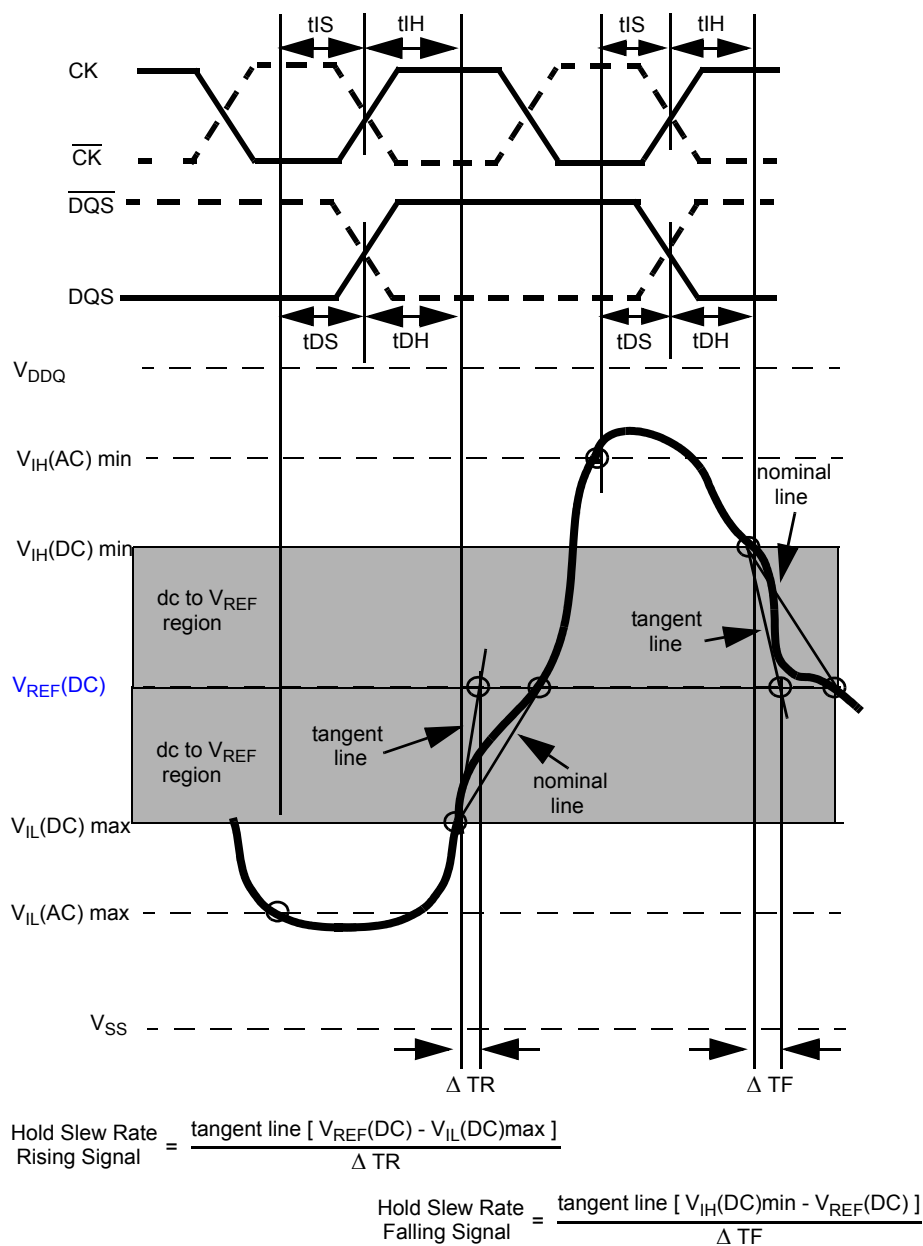

Figure 24. Illustration of tangent line for hold time  $t_{DH}$  (for DQ with respect to strobe) and  $t_{IH}$  (for ADD/CMD with respect to clock)
Hold (tIH) nominal slew rate for a rising signal is defined as the slew rate between the last crossing of VIL(DC)max and the first crossing of VREF(DC). Hold (tIH) nominal slew rate for a falling signal is defined as the slew rate between the last crossing of VIH(DC)min and the first crossing of VREF(DC). If the actual signal is always later than the nominal slew rate line between shaded 'dc to VREF(DC) region', use nominal slew rate for derating value (see Figure 22). If the actual signal is earlier than the nominal slew rate line anywhere between shaded 'dc to VREF(DC) region', the slew rate of a tangent line to the actual signal from the dc level to VREF(DC) level is used for derating value (see Figure 24).